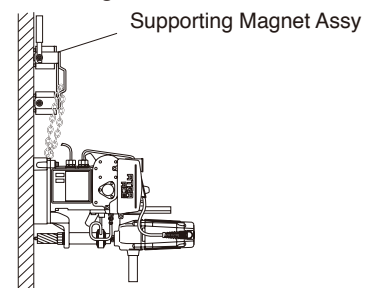

Fig. 5
- The use of a Supporting Magnet Ass'y is shown below. (Fig.5)